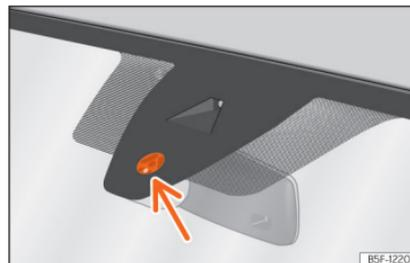

Fig. 108 Rain sensor sensitive surface
Possible causes of faults and mistaken readings on the sensitive surface »» Fig. 108 of the rain sensor include:
- Regularly clean the sensitive surface of the rain sensor »» Fig. 108 (arrow) and check for possible damage to the wiper blades.